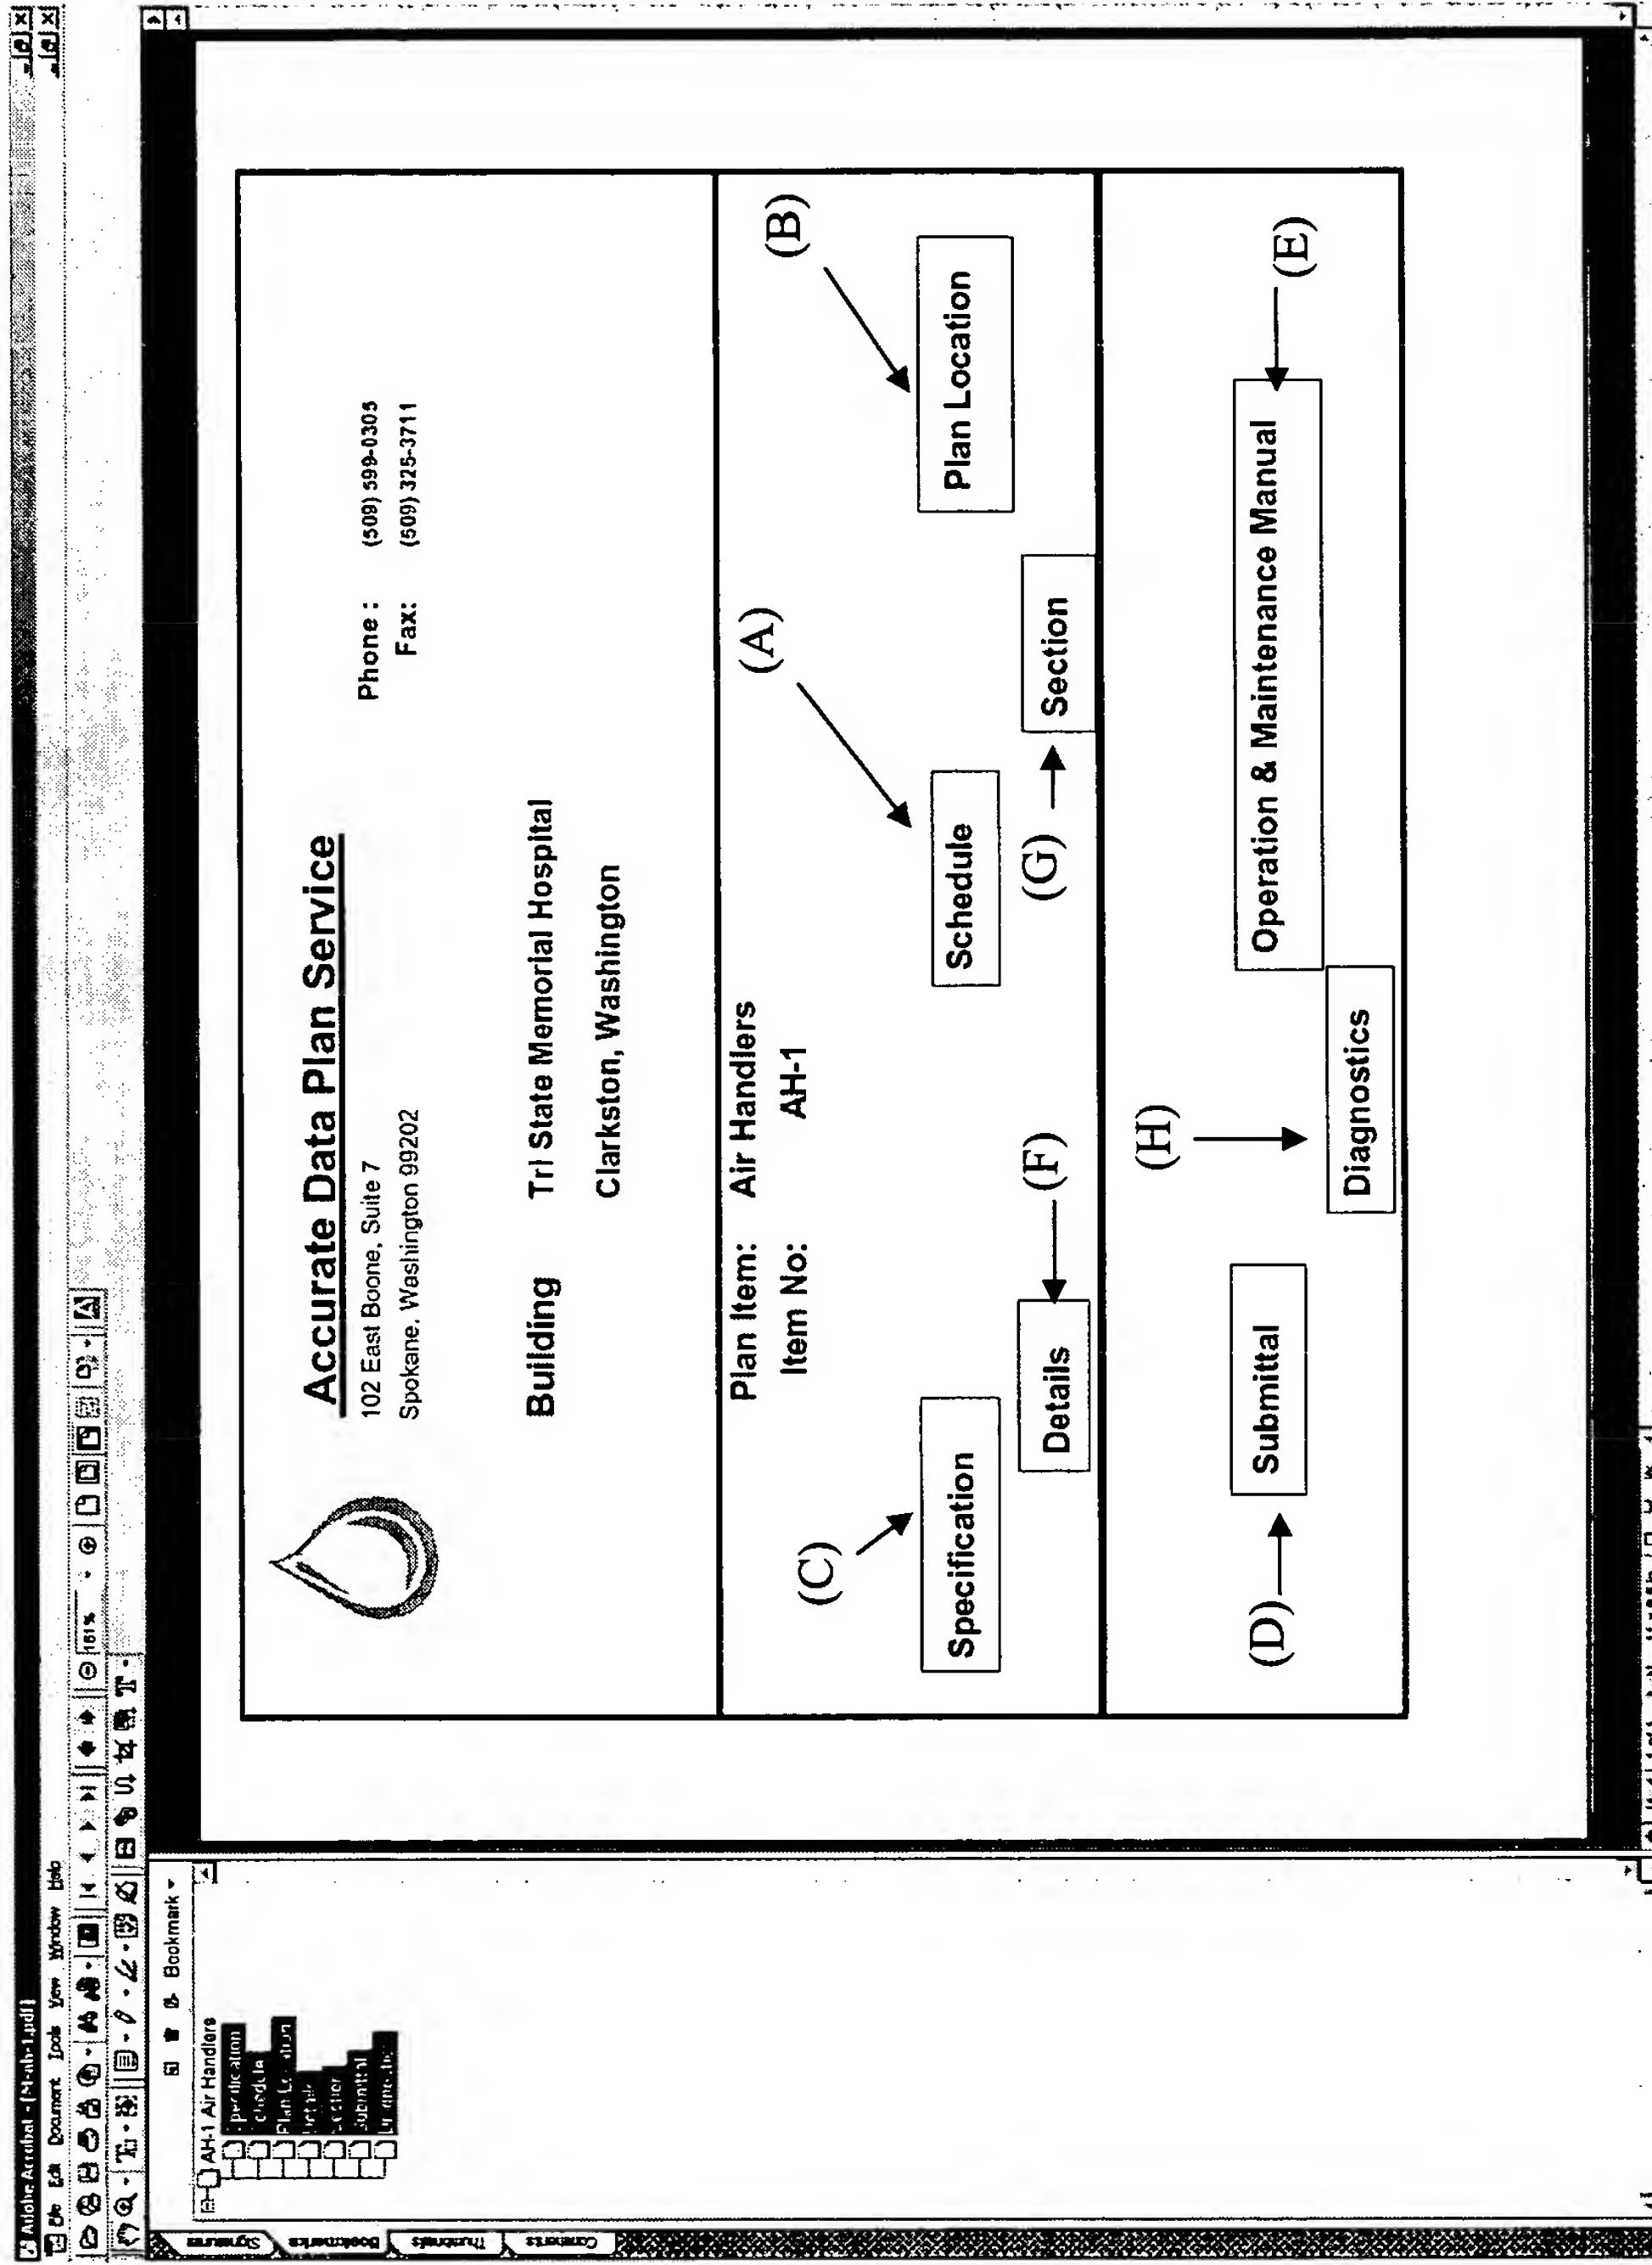

Fig. 4
Equipment schedule representation for components to be installed as accessed from GOI link (A) shown in Fig. 4.
Location drawings (plan and section representations) for items to be installed as accessed from GOI link (B)&(H) shown in Fig. 4.
Specifications of the components as accessed from GOI link (C) shown in Fig. 4.